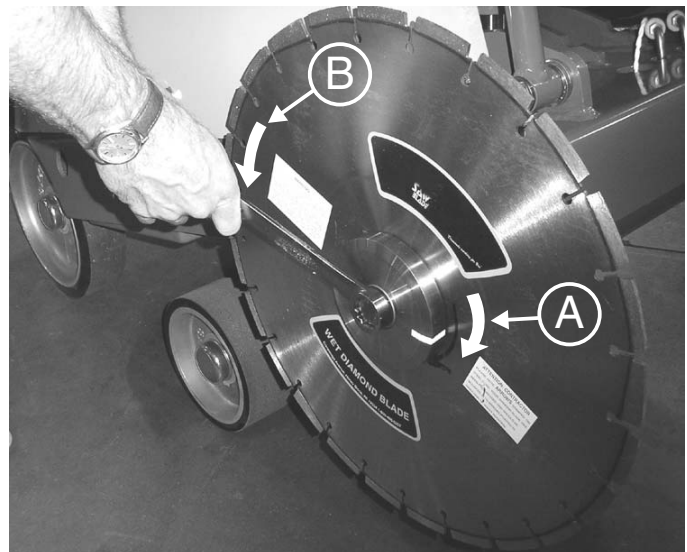

**Figure 11. Aligning Flange Pin Through Blade
3. Taking note of the direction of rotation of the blade, (Item A, Figure 12) insert the bushing and mounting bolt through the outer flange and blade. (See Figure 11.)